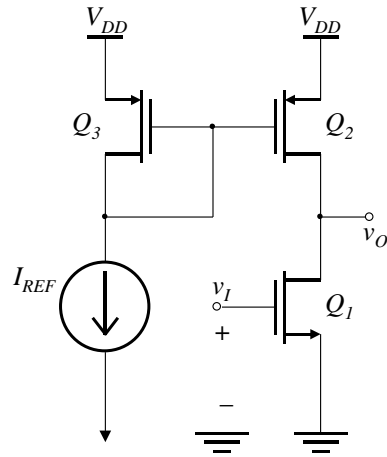

Fig. 1
Fig. 1 is a common source amplifier in which a current mirror formed by Q2 and Q3 sources the bias current for the amplifying transistor Q1. The current flowing through Q3, which is diode connected and hence saturated, results in the same V_{GS} appearing across Q2. Providing $V_0 \geq V_{GS} - V_t$, the same current would also flow through Q2, if Q2 is matched with Q3 in terms of aspect ratio (W/L). This serves as the biasing current for Q1. The output current is scaled by sizing the aspect ratio of Q2.
- (b) The circuit shown in Figure 1 is to be designed using a 0.18 μm process. The transistors have the following parameters: $\mu_n \cdot C_{ox} = 387 \mu\text{A} \cdot \text{V}^{-2}$, $\mu_p \cdot C_{ox} = 86 \mu\text{A} \cdot \text{V}^{-2}$, $V_{tn} = -V_{tp} = 0.5 \text{ V}$, $V_{DD} = 1.8 \text{ V}$, $V'_{An} = 5 \text{ V}/\mu\text{m}$, and $V'_{Ap} = -6 \text{ V}/\mu\text{m}$. The output voltage is to swing between 0.2 V to 1.6 V and the voltage gain must be at least 10 V/V.